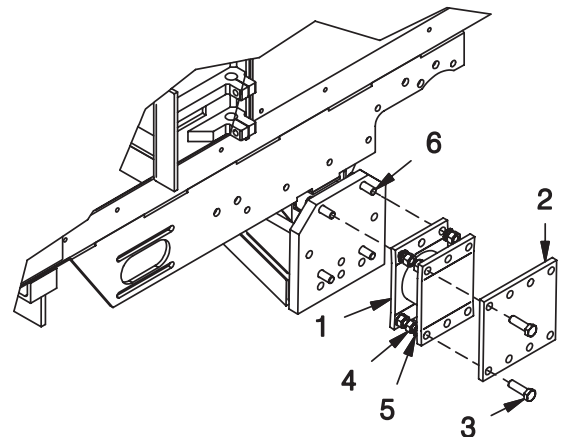

Figure 2-3-3 - Mounting Extension and Spacer
A. (See Figure 2-3-3) Place (4) Item 6 bolts through the Axle. Place (1) Item 1 Extension onto the axel. Place (1) Item 2 Spacer onto the extension as shown. Torque all nuts and bolts as per torque chart on page 2-3-1.